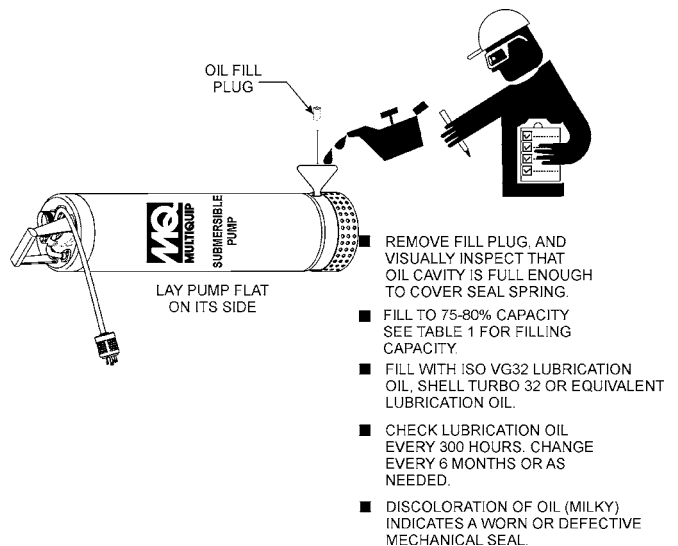

Figure 21. Adding Lubrication Oil
1. Lay the pump (Figure 21) on its side with the oil plug facing upwards.
2. Use a funnel (Figure 21) and fill oil cavity with ISO VG32 lubrication oil or equivalent. Pump oil cavity capacity is 300 ml. Fill to 75-80% capacity to allow for expansion. Replace lubrication oil every 6 months (1,000 hours) or as needed.